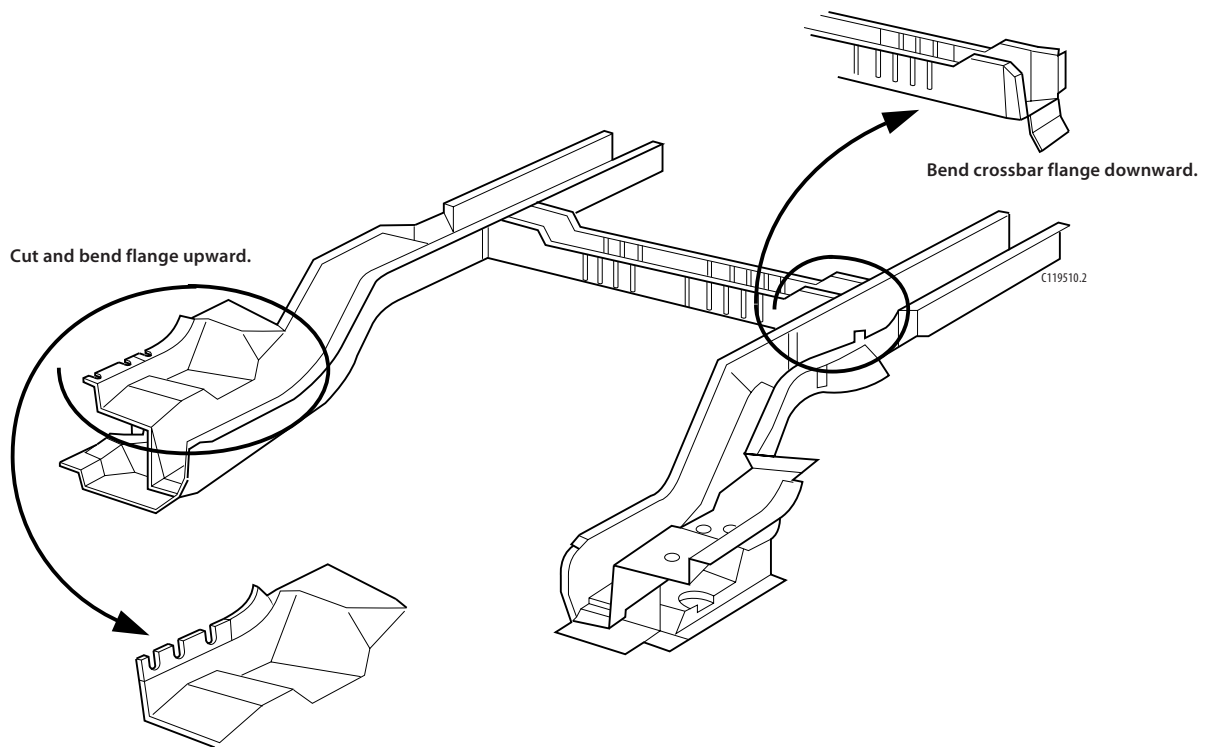

Figure 10-2:
bent upward, and the bottom flange of the crossbar must be bent downward. The rear rail can then be lowered from the vehicle (figure 10-2). When installing the service rail, the outboard flange must be cut and bent up, installed, then straightened, and aligned. Weld as necessary.
3. Cut the rear rail along the rearward flange of the crossbar (figure 10-2). Continue this cut around the rear rail.